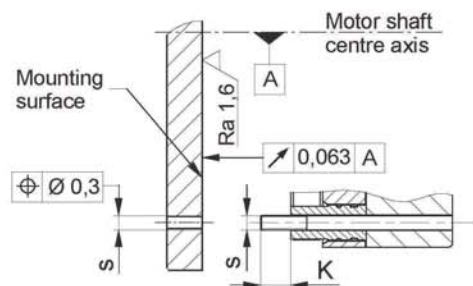

Fig. 5
- ☐ On hub designs (Type 8012_1_3), the hub bore (10) tolerances and the shaft must be selected so that the hub toothing (10) is not widened. Widening of the toothing leads to the rotor (3) jamming on the hub (10) and therefore to brake malfunctions. Recommended hub - shaft tolerance H7/k6. If the hub (10) is heated for better joining, the O-ring (11) must be removed beforehand and re-mounted after hub installation. The max. permitted joining temperature of 200 °C must not be exceeded.
- ☐ Dimensioning of the key connection according to the requirements shaft diameter, transmittable torque and operating conditions must be carried out. For this, the corresponding user data must be known or the customer must carry out the dimensioning according to the valid calculation basis DIN 6892. For the calculation, a hub quality of Re = 300 N/mm² should be used. The length of the key should lie over the entire hub (10).
- ☐ The mounting dimensions and the screw-on surface s with depth K + 2 mm (K = screw projection) acc. Catalogue or applicable assembly drawing must be given (Fig. 5).